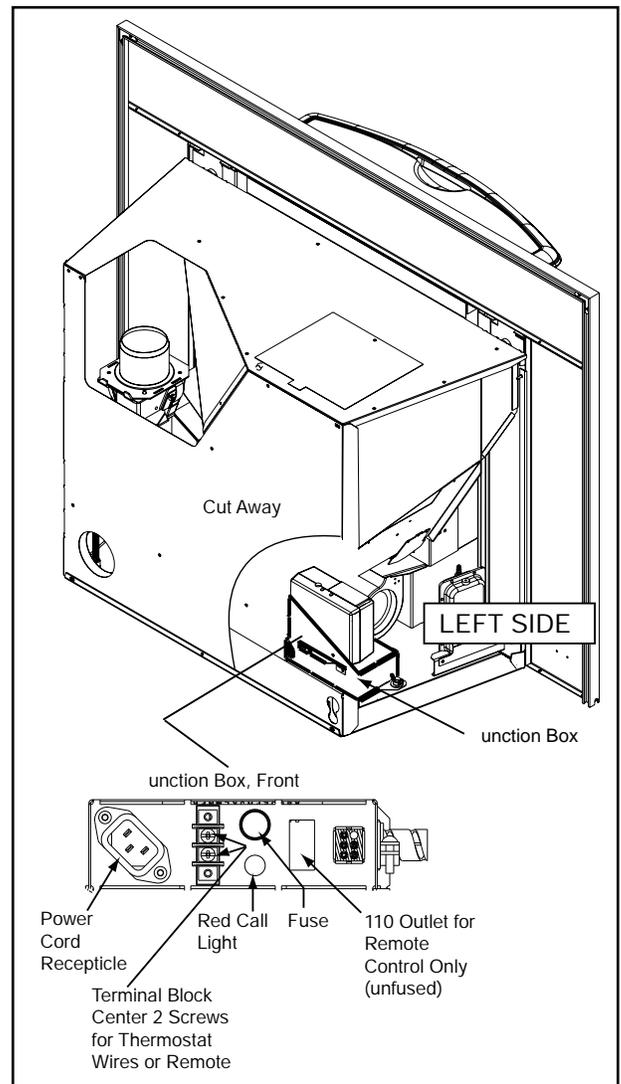

Figure 23.1
3. There is a 4 screw terminal block located on the junction box to the right of the power cord inlet. The center 2 screws are for the thermostat wires. The outer 2 are the mounting screws for the terminal block. **Figure 23.1.**